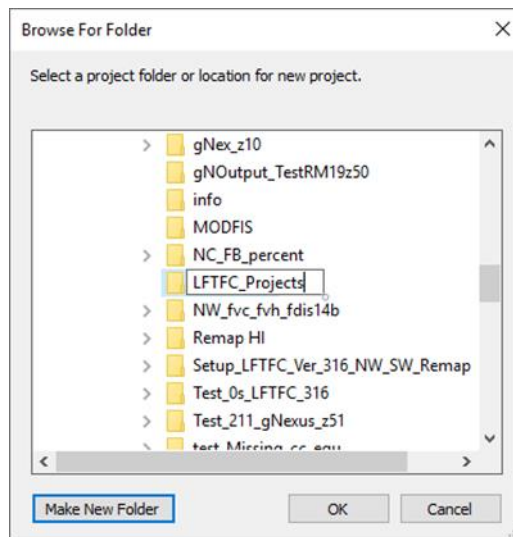

Figure 6-3. Use dialog box to create a project folder.
- The following **Browse for Folder** dialog box will open. Use this dialog box to select the project folder (Figure 6-3).